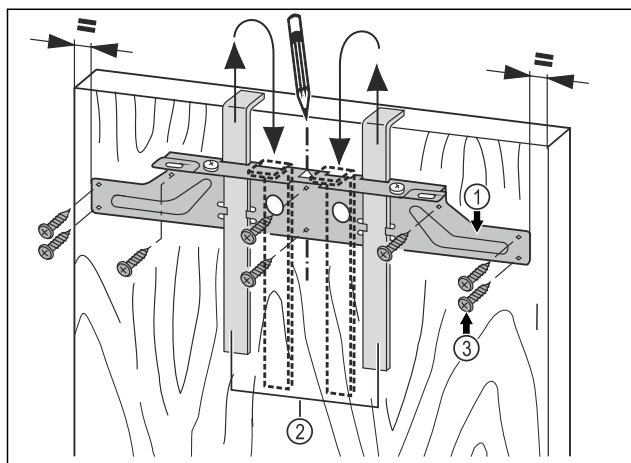

Fig. 42
- Hang the fastening crossbeam Fig. 42 (1) with the assembly aids Fig. 42 (2) on the inside of the unit door.
- Align the fastening crossbeam Fig. 42 (1) in the center of the door.
- Screw down the fastening crossbeam Fig. 42 (1) with at least 6 screws Fig. 42 (3).
- Screw down the fastening crossbeam Fig. 42 (1) to the edge with 4 screws Fig. 42 (3).
- Pull out the assembly aids Fig. 42 (2) upwards and insert them rotated into the adjacent openings.